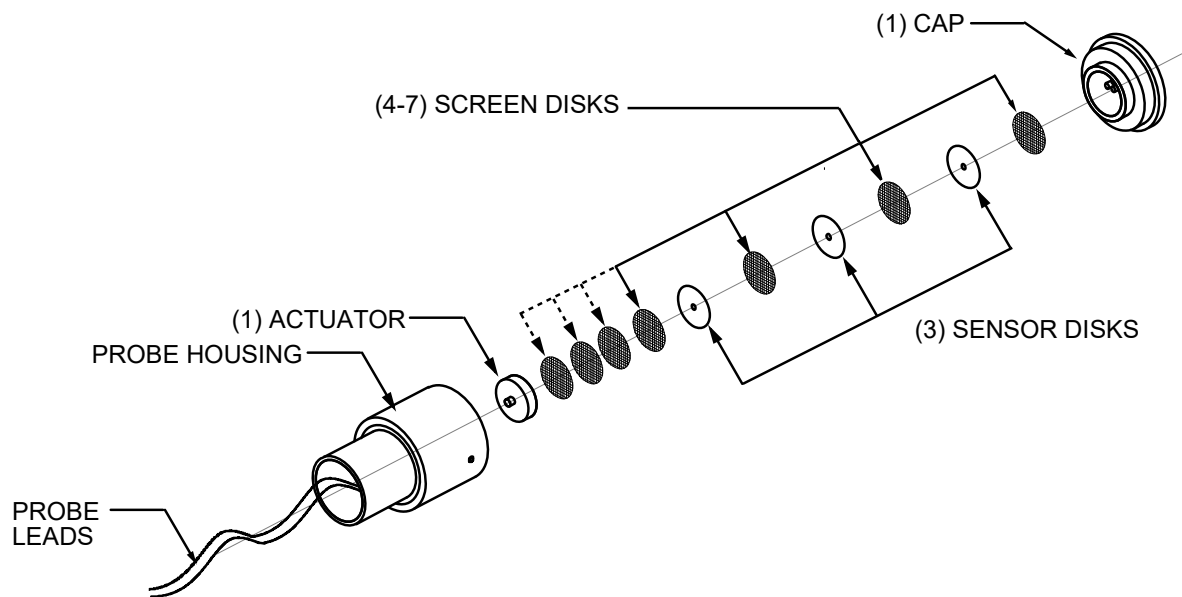

Figure 9-3
6. Figures 9-1 and 9-2 show the recommended installation procedures. Figures 9-3 thru 9-7 show typical probe installations. Install the probe and use electrical conduit and/or watertight cord grips, as necessary, to prevent water entry where the probe twin lead penetrates the monitored area. If the probe lead length is longer than 5' [1.5 m] and the probe is installed in the first 800' [245 m] of a system, plastic conduit should be used instead of metal conduit. The cord grip (part # 8057950) with the oval opening in the bushing is used with the twin lead cable. The cord grip (part # 8057954) with the round hole is for the jumper cable.
The replacement sensor package consists of 10 disks: seven screen disks and three sensor disks as shown in figure 9-3. The replacement package includes all removable parts: probe cap, sensor elements, and actuator. Replacement sensor elements can also be purchased separately.
6. Reassemble the switch. Carefully alternate the screens and three sensor disks in the cap as shown in figure 9-3. If there are more than 4 screens, place the extra screens on top. Place the actuator on top of the top screen. The actuator has a small point in the center of one side that must face the probe housing as shown. Hold the probe housing vertically and screw the cap finger-tight into the bottom of the housing.
If the sensor elements are replaced, it is necessary to use the correct number of screen elements for optimum sensitivity (see figure 9-3). The number of screens required varies due to manufacturing tolerances of the probe. A multimeter is required.
4. If the reading is 0.L, remove a screen (shown by the dashed arrows in figure 9-3). If the reading is less than 2 ohms, the calibration is complete.